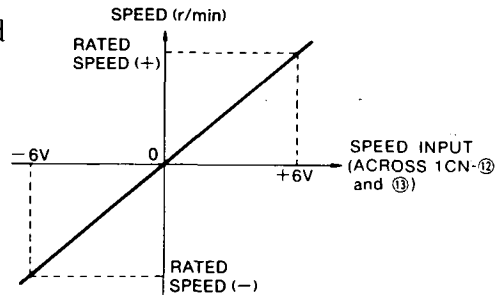

Fig. 12.1 Speed Reference Input-SERVOMOTOR Speed Ratio
(1) Speed Reference Input-SERVOMOTOR Speed Ratio (Fig. 12.1)